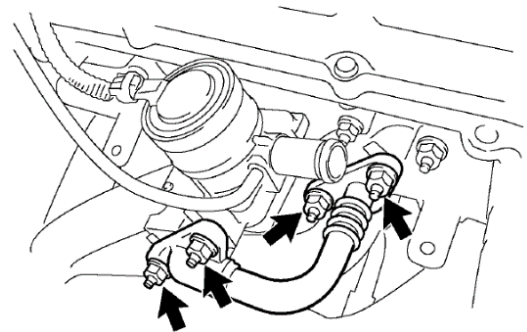

Figure 3 - Air Tube Removal
3) Remove the air injection tube by removing the four stud nuts shown in Figure 3. Remove the two metal gaskets and clean them and the mating surfaces of the valve and cylinder head. Replace the metal gaskets on the studs so they match the flanges. Flip them over if they do not.